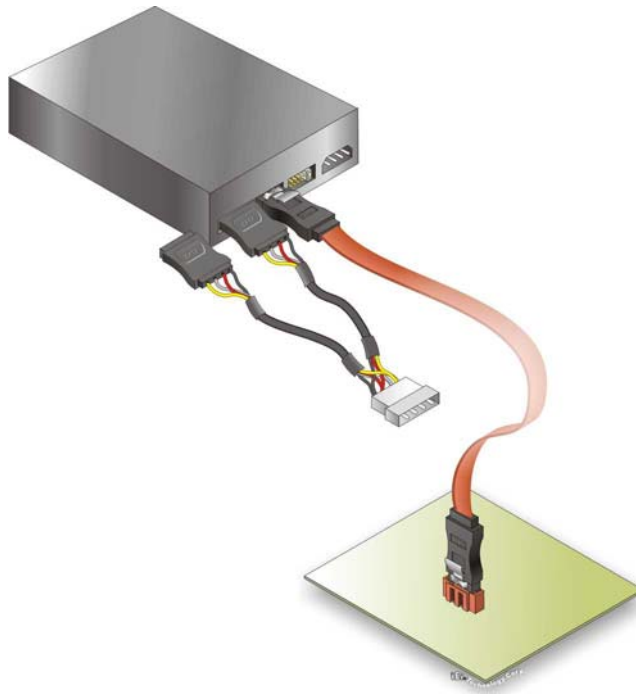

Figure 4-14: SATA Power Drive Connection
- Step 3:** **Connect the cable to the SATA disk.** Connect the connector on the other end of the cable to the connector at the back of the SATA drive. See Figure 4-14.
- Step 4:** **Connect the SATA power cable.** Connect the SATA power connector to the back of the SATA drive. See Figure 4-14.